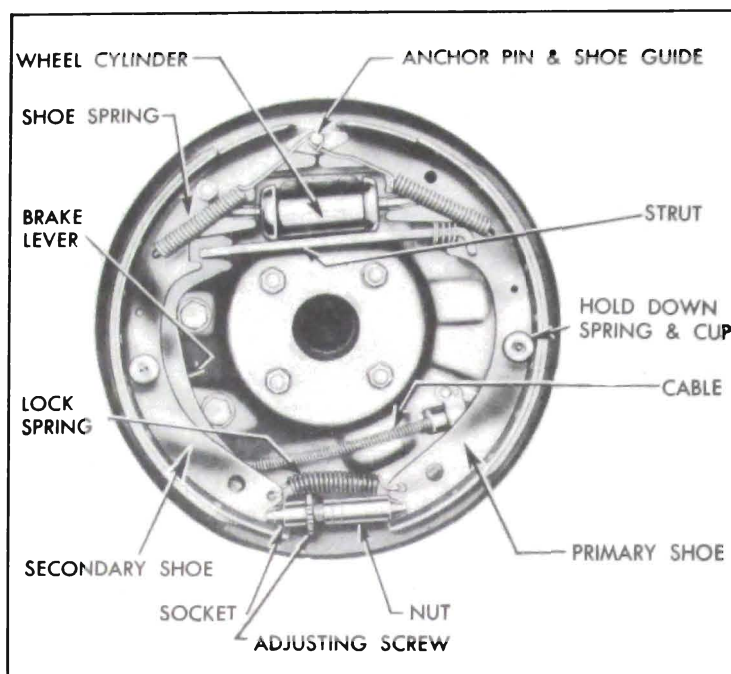

Figure 8-11—Rear Wheel Brake Assembly—Right
lever (rear only). See figure 8-11.
3. Separate the brake shoes by removing adjusting screw and lock spring. Remove parking brake lever from secondary brake shoe (rear only). See figure 8-11.
2. On rear brakes only, lubricate fulcrum end of parking brake lever and the bolt with Bendix or Delco Brake Lubricant, or Lubriplate, then attach lever to secondary shoe with bolt, spring washer, nut, and Pal nut. Make sure that lever is free moving. See figure 8-11.
4. Attach brake shoes to backing plate with hold down springs, pins, and cups, at the same time engaging shoes with wheel cylinder connecting links. The primary shoe (short lining) goes forward. On rear brakes, connect cable to parking brake lever and install strut between lever and primary shoe as installation is made. See figure 8-11.